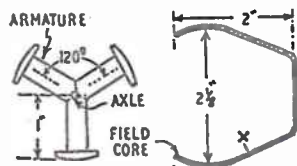

Fig. 1—Magnet cores
Tripolar armatures are never easy to construct, but that used here is not unduly difficult, as the cores consist of three 1 in. sections, including heads, sawn off three iron bolts about ¼ in. in diameter. These bolts will only cost a few pence from an ironmonger. The three pieces are filed at an angle, so that they will meet as shown in Fig. 1, a notch being filed to accommodate the axle. If initial sawing has been a little inaccurate, the pieces should be filed so that they are all the same length.
This is bent to the shape and size shown in Fig. 1, a strip of soft iron about ¼ in. wide and ¼ in. thick being used. A hole is drilled at (X) so that the core can be screwed to the baseboard. The straight portion is then covered with brown paper or tape, and about 600 turns of 26 or 28 S.W.G. wire